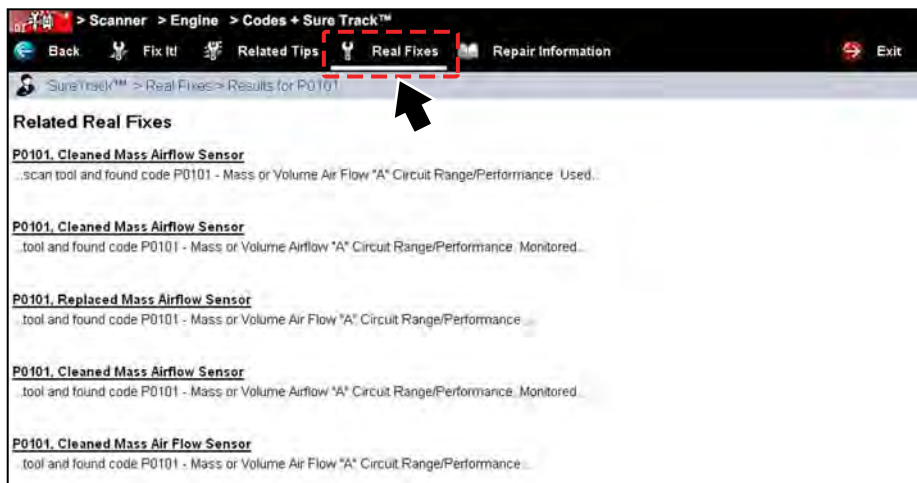

Figure 15-4 Real Fixes Screen
**Real Fixes**—opens a list of tips related to the current DTC that have been gathered from actual shop repair orders and presented in a Complaint, Cause, Correction format (Figure 15-4).